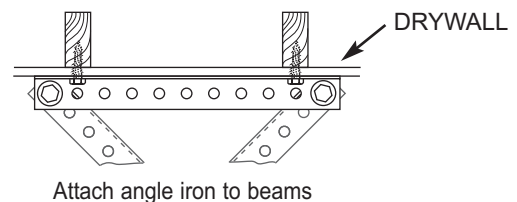

**FIG. 2-4** Position assembly and align.
- Position assembled rail on wall next to header bracket (**Fig. 2-4**).
**NOTE:** Before final attachment to ceiling, insure that assembly is in proper alignment (**Fig. 2-4**).